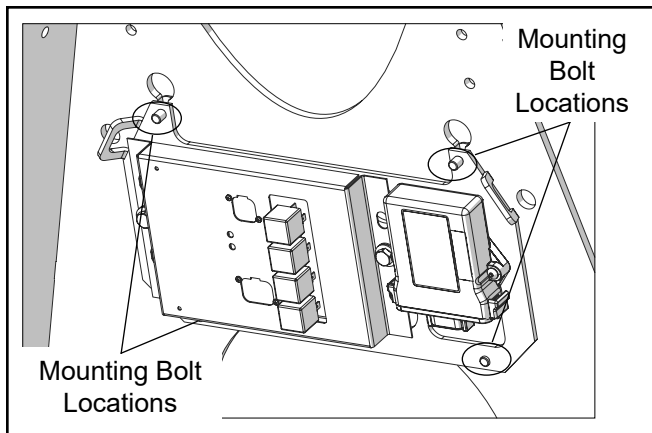
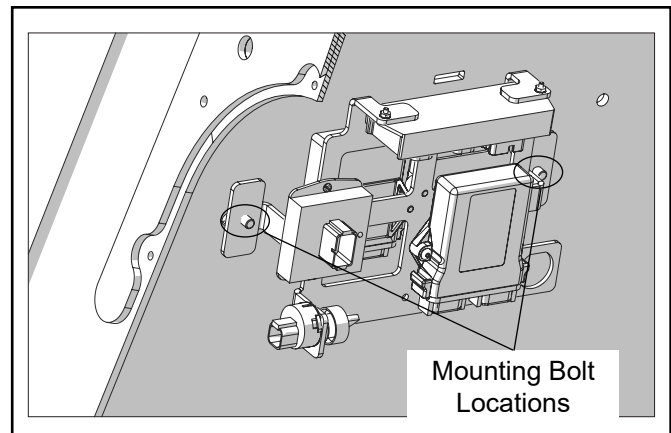

Figure 4 — DM/DC Driver Board (Inside Pedestal)
Figure 5 — DM-E Driver Board (Inside Pedestal)
5. Remove the driver board bracket, part number 970062302 for DM/DC models (refer to Figure 4) or part number 991173267 for DM-E models (refer to Figure 5) from the side plate.